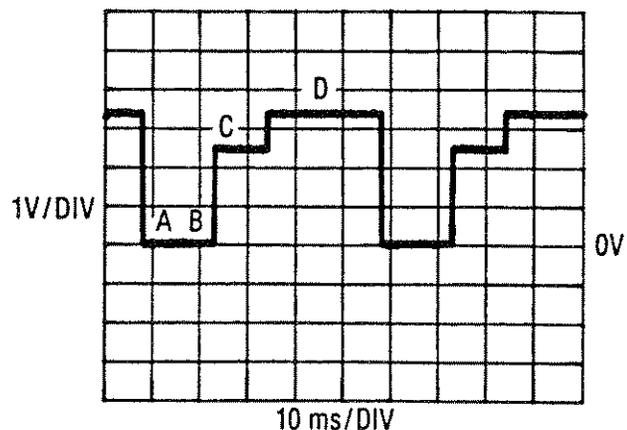

Figure 8-50. Analog to Digital Converter Input
1. Compare the waveform at A5TP11 with Figure 8-50.
- The voltage levels at points A, B, C and D, on Figure 8-50, should be as indicated below:
If the voltage levels at points A, B, C and D are not as shown in Figure 8-50, go to step 4.